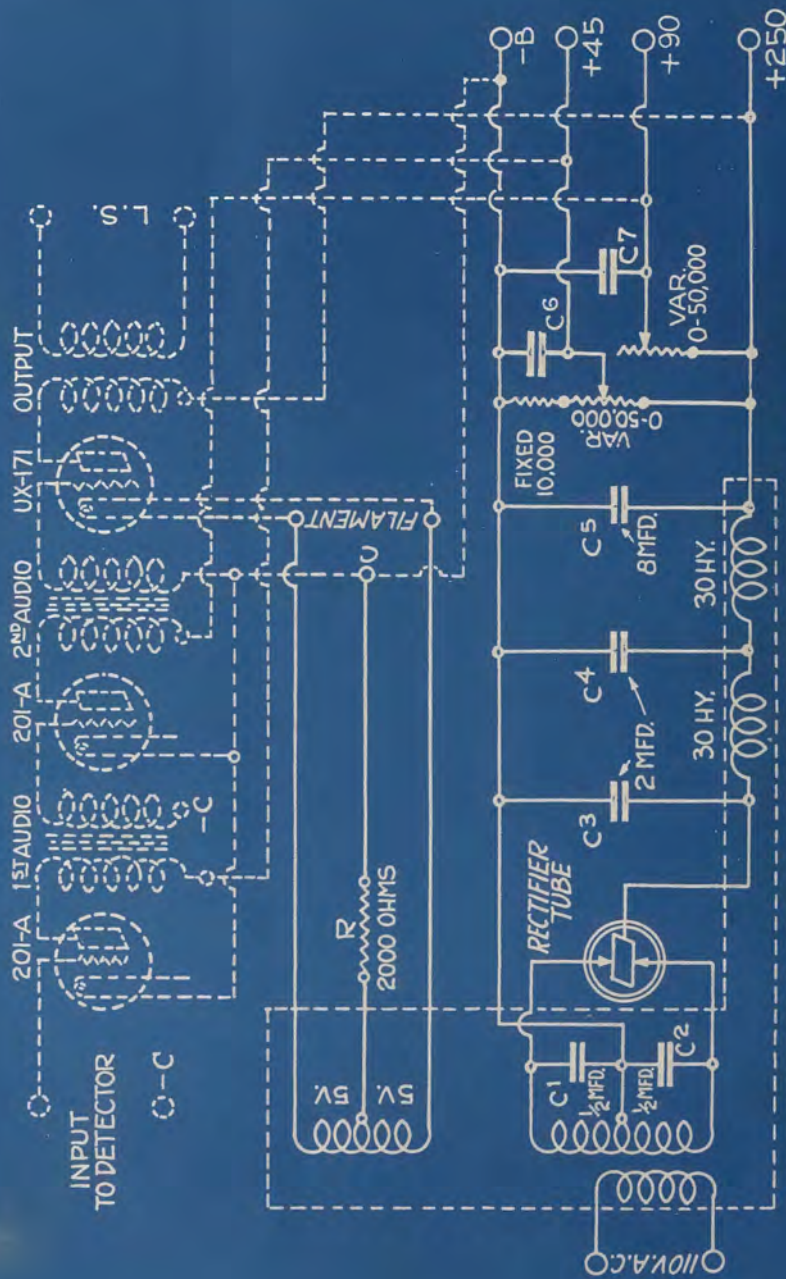
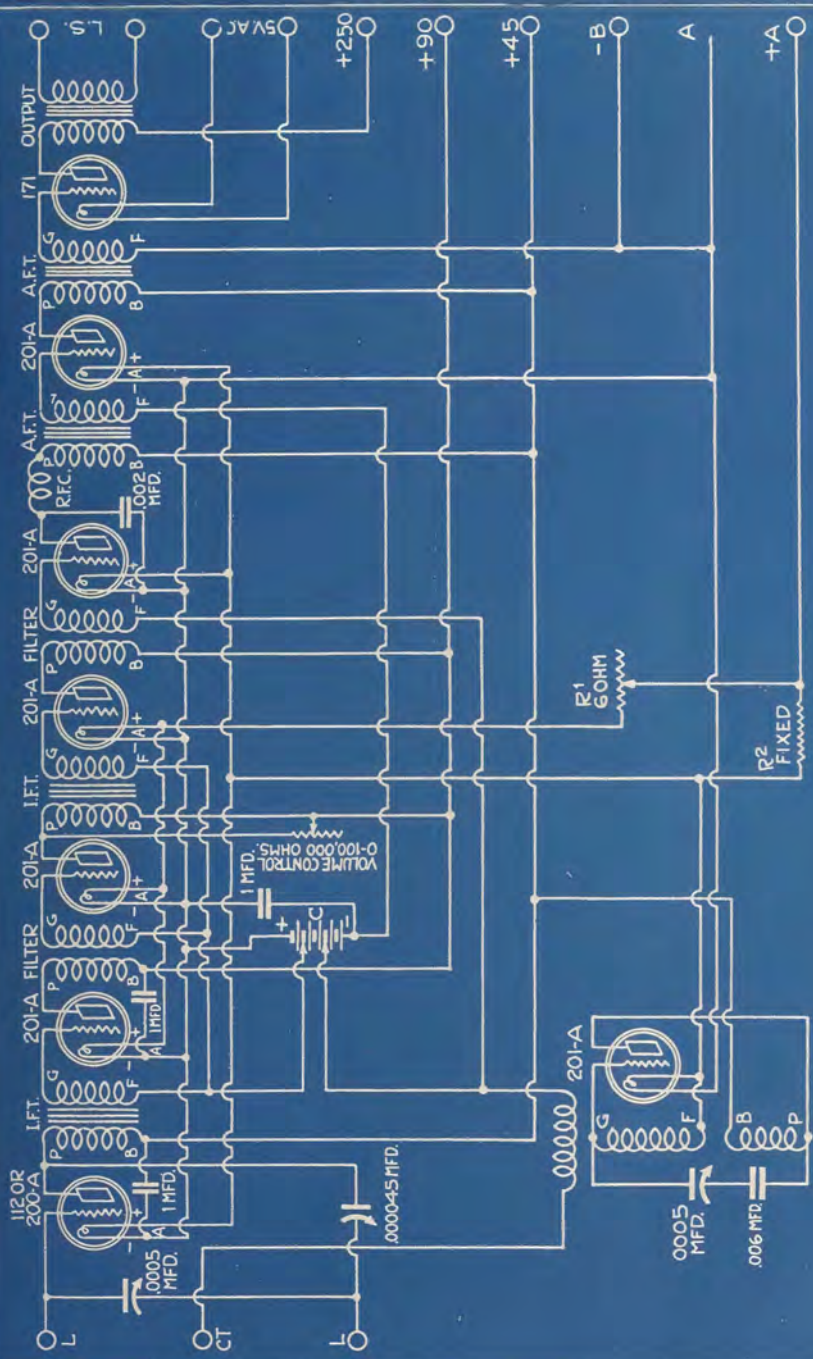

FIG.3- 171 POWER COMPACT FOR IDEAL MODEL
FIG. 4 SCHEMATIC CIRCUIT - IDEAL MODEL
shown in Figure 2 on page 27. Do not try to wire the set from this drawing. Use the schematic on page 31 (Figure 4) for the superheterodyne, and the schematic on page 30 (Figure 3) for the power compact. However for the location of the various articles the layout shown in Figure 2 will give a clear idea to the home constructor for whom these articles are written.
**B**EFORE commenting on the receiver itself we will refer to the Thordarson R-171 compact shown schematically in Figure 3 on page 30. Inside the dashed lines will be found a 110 volt AC primary; a 5 volt AC, center tapped, secondary for the fila-
In the upper section of Figure 3, are shown the first and second audio stages of the receiver. The filament of the 171 tube being AC is not supplied from the set itself but from the 5 volt winding of the 171 compact. Grid bias for this tube is secured through the 2,000 ohm resistance between the center tapped filament transformer and the negative B line. This bias will be automatic and depend upon the amount of current consumed in the plate circuit of the 171 tube. Please notice that while the grid return of the first audio transformer goes to the negative of the set's C battery, the grid return of the second audio goes to the negative A and B whence it secures its bias on account of the 171 filaments not being a part of the set filament supply. The output transformer is used to isolate the di-
Going now to the super itself the wiring diagram is shown in blueprint Figure 4. A center tapped loop is used in order to gain regenerative qualities in the first detector which instead of using a grid condenser and leak, makes use of the rectifying properties of a grid negatively biased. This bias is obtained from a common C battery which also carries the pickup coil of the oscillator and the grid return of the second detector. Thus rectification in both the first and second detectors is by the bias method, while the pickup coil is located in this line because of its being more or less at a low potential position in the circuit, obviating the necessity of long wires in the actual grid line itself.
In this photograph is shown the bottom view of the Ideal model constructed in our laboratory. Do not try to wire by this picture. Use the schematic, blueprint figure 4 and be certain of electrical accuracy